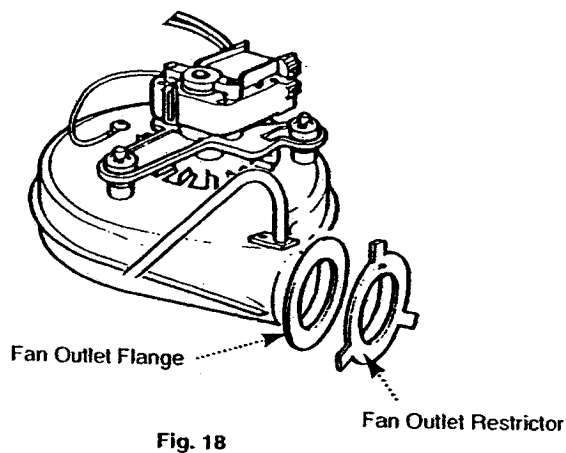

Fig. 18
4. Fit the restrictor to the fan outlet flange, bending the 3 lugs equally over the flange to secure (Fig. 18).